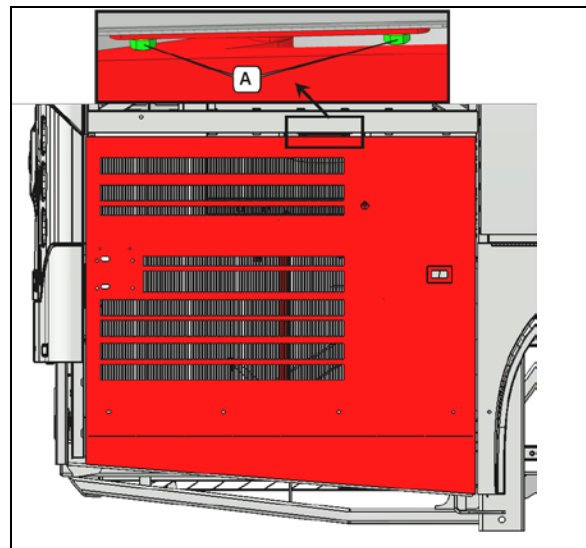

FIGURE 45
2. Make sure bolts A are tight (FIGURE 45).